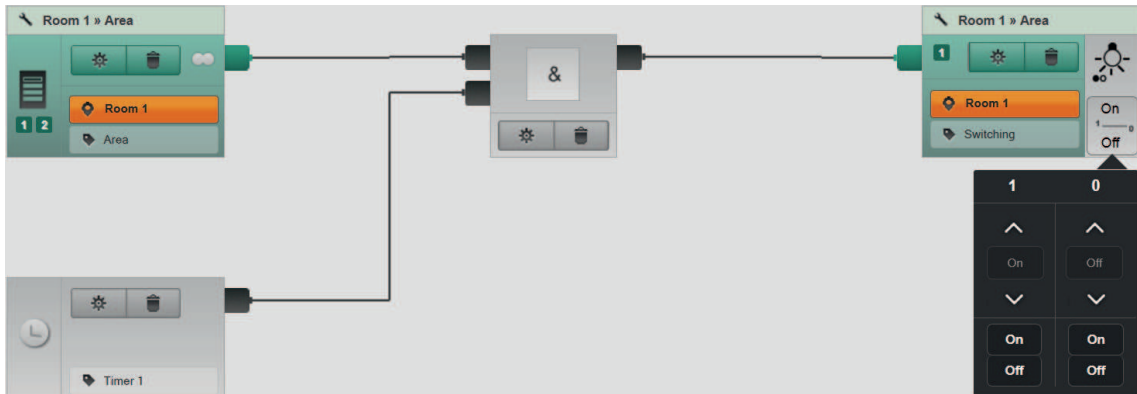

Figure 45: Setting the actuator values
- To change the actuator values, select the grey values area (Figure 45).